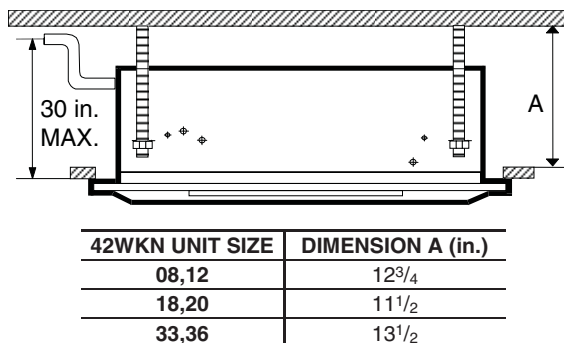

Fig. 18 — Minimum Distance to Ceiling
7. There should be sufficient room above the false ceiling for installing the unit. Minimum distance as shown in Fig. 18.